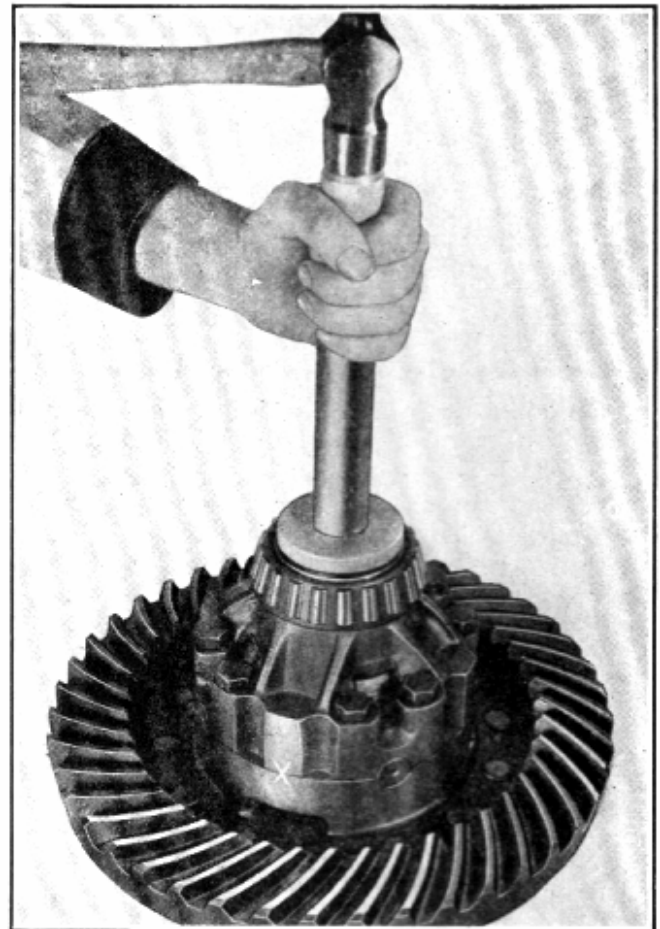

Fig. 39—Replacing Differential Side Bearings
5. Dip differential side bearings in gear oil, turning the rollers to be sure they are thoroughly lubricated, and place the bearings in their proper position on the differential case. The bearings should be firmly seated in place by special tool No. J-1703 as illustrated in Fig. 39.